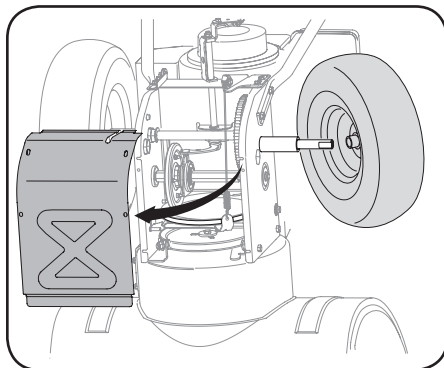

Figure 4-19
4. Remove frame cover from underside of unit by removing self-tapping screws which secure it. See Figure 4-4. Remove right-hand wheel by removing screw and bell washer which secure it to axle. See Figure 4-19.